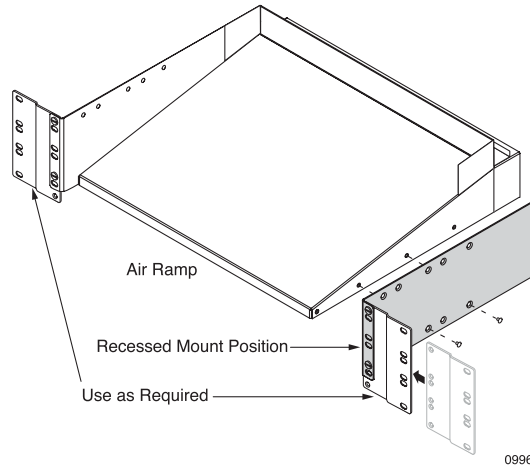
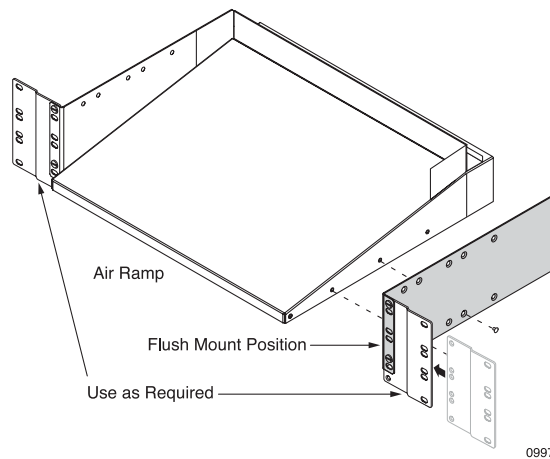
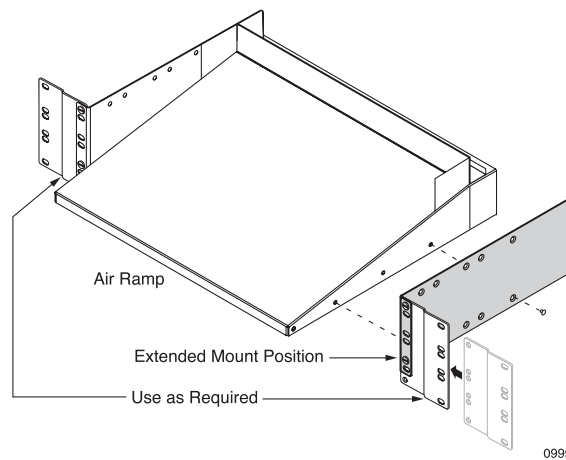
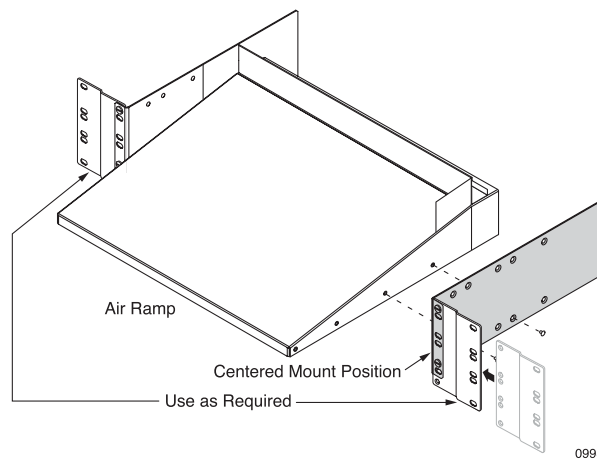

Figure 11 *Installing Air Ramp Brackets for the Recessed Mount Position*
Figure 12 *Installing Air Ramp Brackets for the Flush Mount Position*
Figure 13 *Installing Air Ramp Brackets for the Extended Mount Position*
Figure 14 *Installing Air Ramp Brackets for the Centered Mount Position*
1. Position a mounting bracket against one side of the lower air ramp, lining up two of the screw holes in the bracket with two of the screw holes in the side of the air ramp. Ensure that the bracket position corresponds to the position of the chassis mounting brackets; see Figure 11, Figure 12, Figure 13, and Figure 14 for these details.